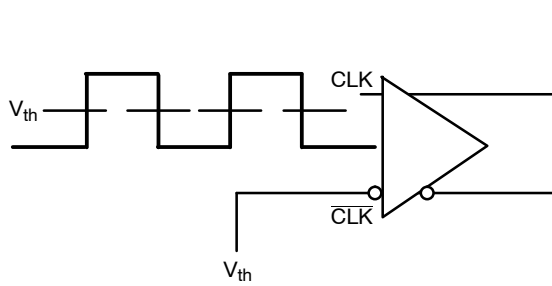

Figure 4. Single-Ended Interconnect V_{th} Reference Voltage
DIFFERENTIAL INPUT DRIVEN SINGLE – ENDED (See Figures 4 and 5)
HCSL OUTPUTS (Figure 4)
- V_{th} is applied to the complementary input when operating in single ended mode per Figure 4.